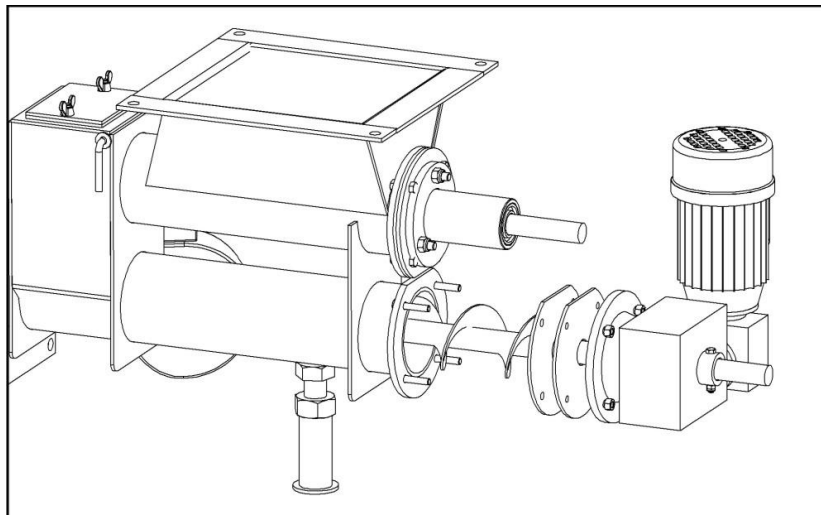

Fig 17. Removing the lower axis
- Unscrew the four nuts keeping the motor in place and remove it (see Fig 17).